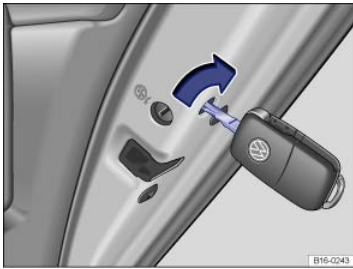

Fig. 172 On the front side of the right rear door: Manual vehicle locking with the key bit in the vehicle key.
- Insert the key bit horizontally into the opening and press the small colored lever forward ⇒ *Fig. 172* .